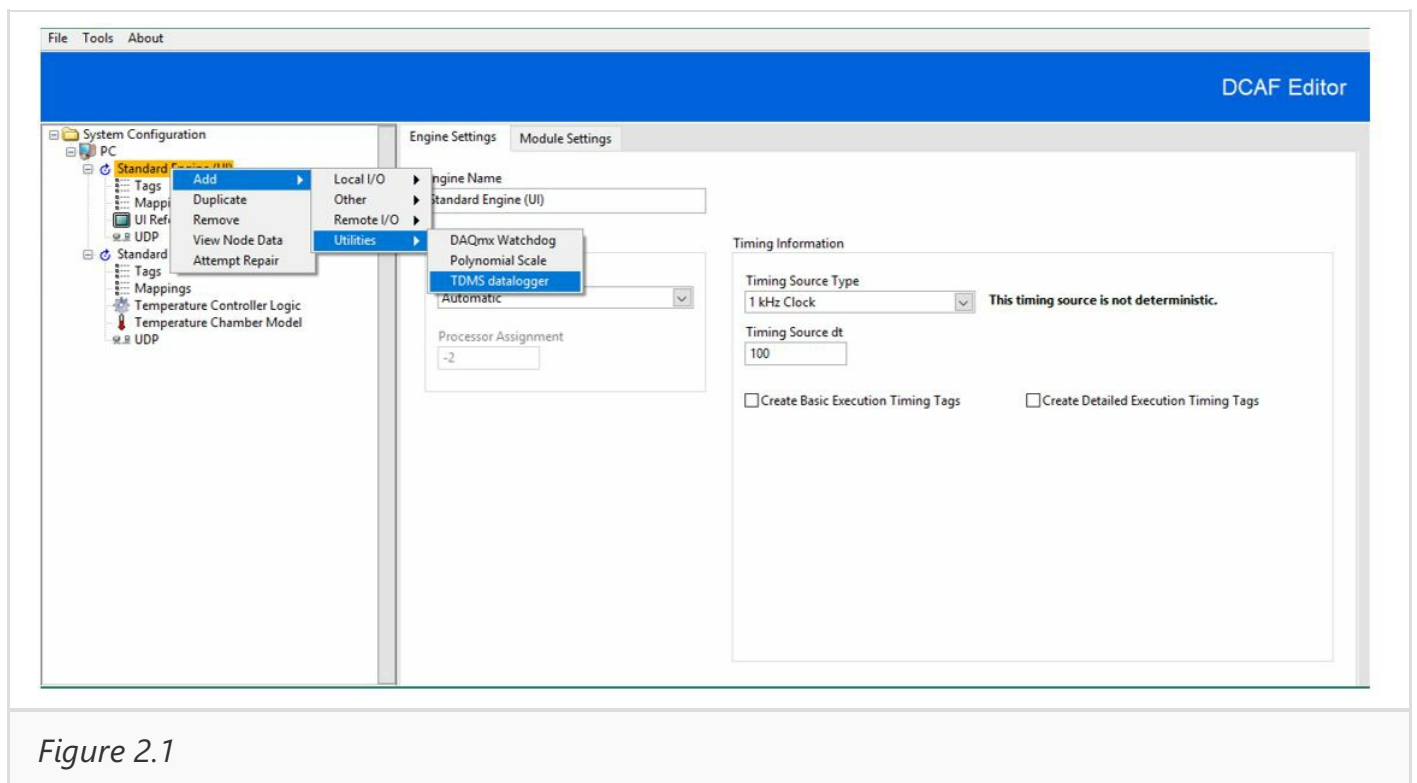

Figure 2.1
3. Right click the **Simulation Engine** and select **Add>>Utilities>>TDMS datalogger** as shown in Figure 2.1.